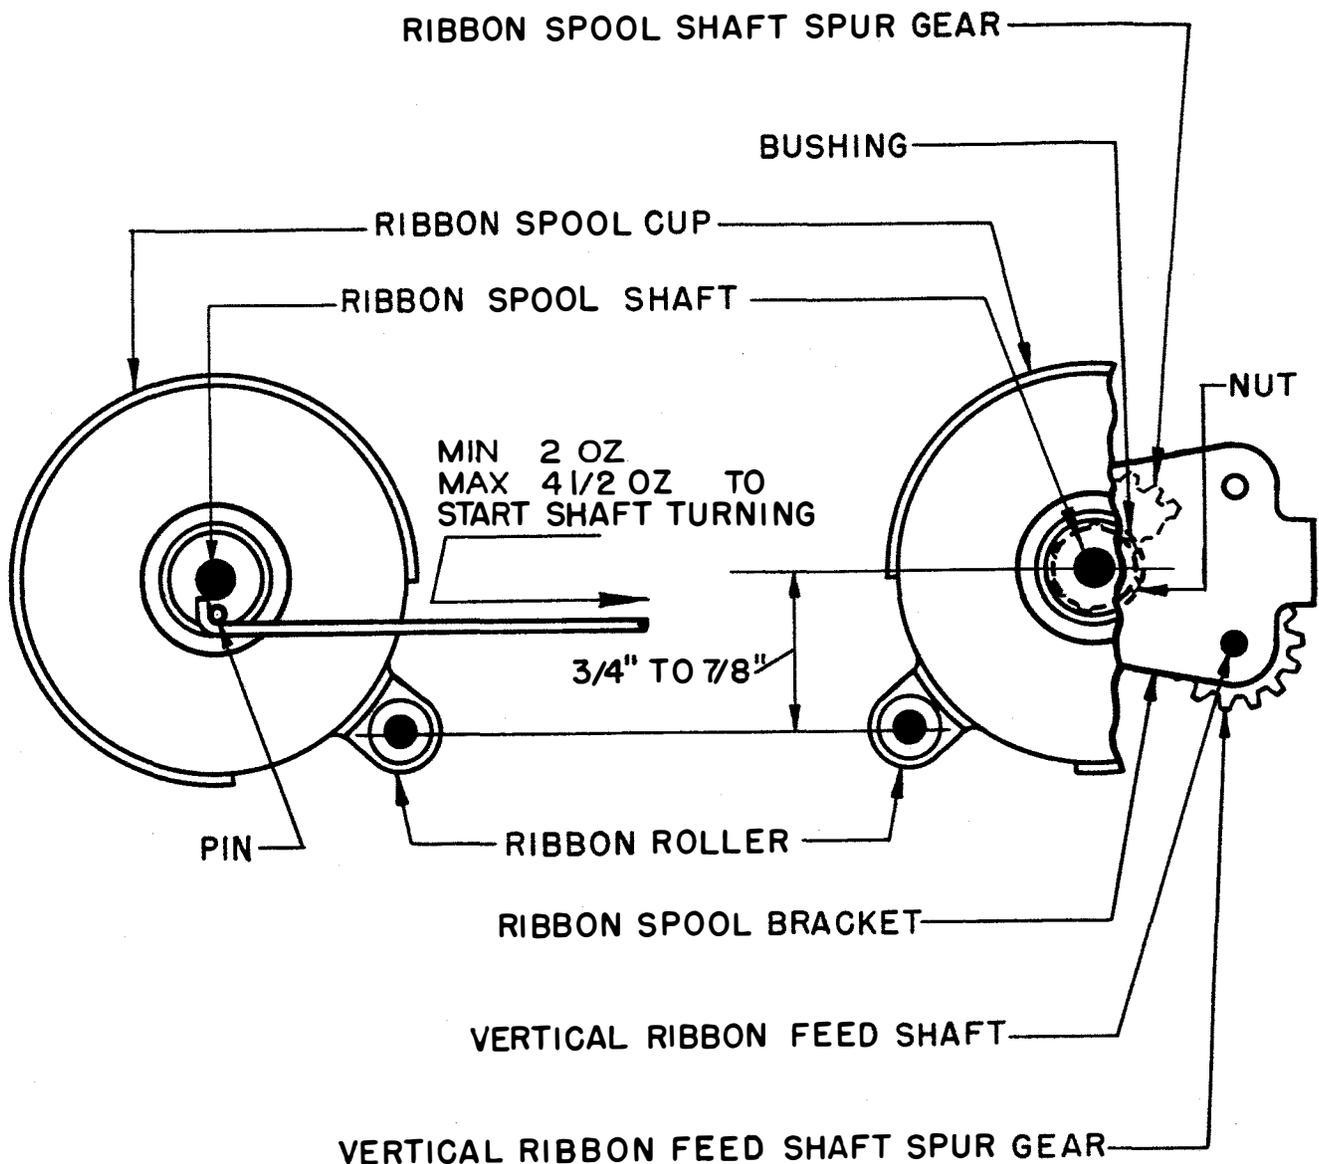

Figure 8
2.13 Ribbon-spool Cups: The ribbon-spool cups should be positioned so that (1) their ribbon roller-bearing pins are minimum 3/4 inch, maximum 7/8 inch, in front of a line through the ribbon-spool-shaft centers, and (2) there is no bind between the gears on the ribbon-spool shaft and the vertical ribbon-feed shaft. Gauge by eye and feel. See Figure 8.
2.14 Vertical Ribbon-feed-shaft Springs should exert a pressure of minimum 2 ounces, maximum 4-1/2 ounces, when the associated horizontal and vertical ribbon-feed-shaft bevel gears are disengaged. See Figure 8.
2.19 Ribbon-spool Cups and Ribbon-reverse-arm Backstop (Applies only to units equipped with yield mechanism.) The centers of the ribbon rollers should be minimum 3/4 inch, maximum 7/8 inch in front of a line throughout the centers of the ribbon-spool shafts. With the ribbon-reverse arms held against their backstops, approximately 3/4 of the tooth on each ribbon reverse pawl should be in a position to be engaged by the ribbon-reverse bail. There should be no bind between the ribbon-spool-shaft spur gears and the vertical ribbon-feed-shaft spur gears at any point in their engagement. See Figures 8, 10, and 11.